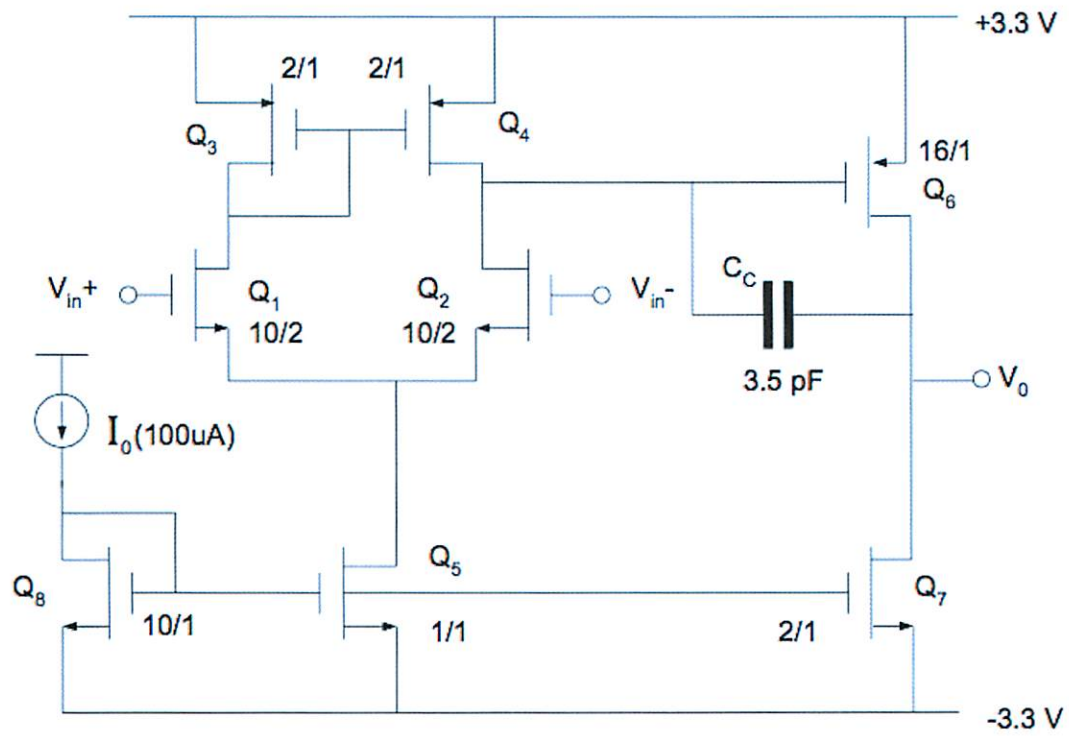

Figure 2.2
- (b) Figure 2.2 shows a two-stage CMOS op-amp. Estimate the low-frequency differential voltage gain and the gain-bandwidth product of the amplifier. The aspect ratios of all devices are shown on the circuit. Assume that all bulk effects are negligible. The device model parameters are given below. What is the main advantage and disadvantage of a single-stage compared to a two-stage op-amp? [11]
- (c) Explain why a resistor in series with the compensation capacitor C in Figure 2.2 can significantly improve the amplifier's phase margin. [3]